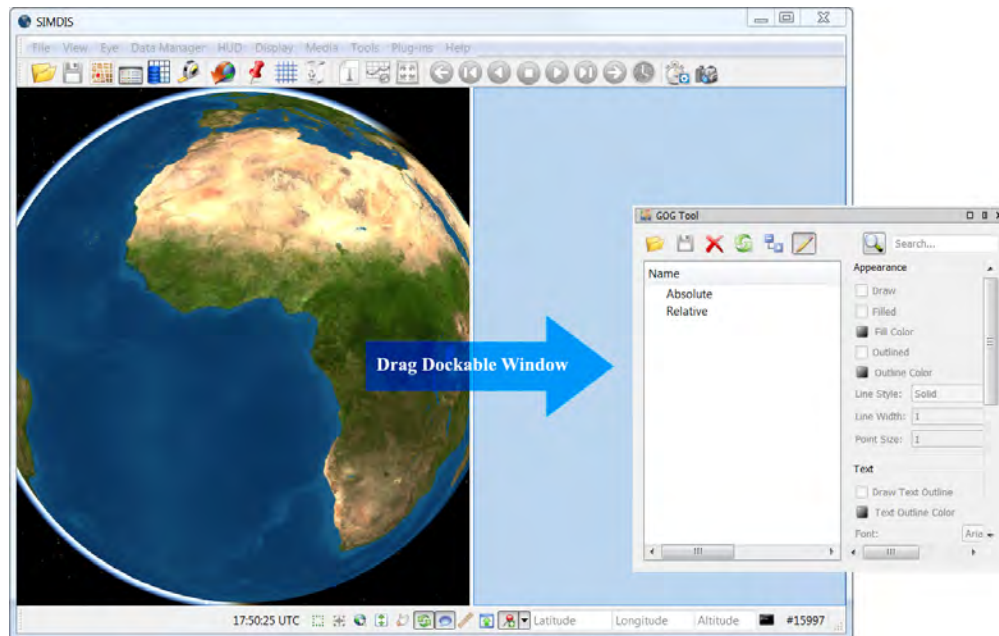

Figure 3.7: Manually Docking a Window
1. The main window will split and a blue frame will appear as shown in Figure 3.7. This display will vary based on your system configuration and operating system.